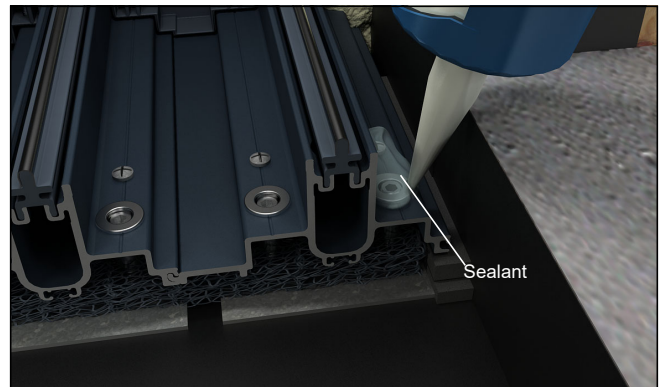

Figure 25
3. Seal all rivet nuts, anchor screws/holes and any other screw holes on the interior most side of the sill prior to installing the interior sill cover. See figure 25.